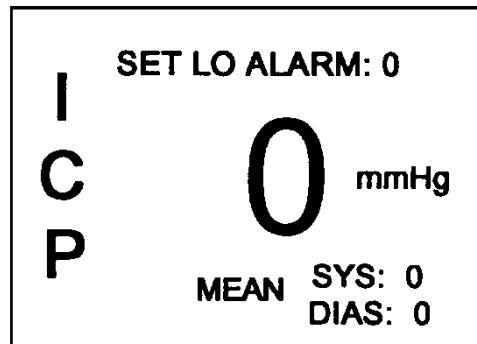

Figure 15
13.6.7 Use the arrow keys to set the HI limit to 21, then press MENU/ENTER. Verify that the "SET LO ALARM" screen appears as shown in Figure 15, with the displayed limit = 0.